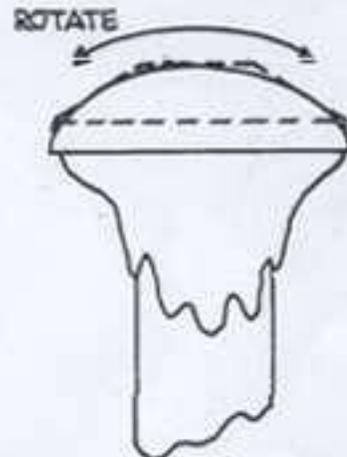

Fig. 7
6. Fine grinding (220 grit) - grind curves from bevel to bevel (Fig. 7), making each an arc of a circle so that light will be reflected evenly at every point. Use a sweeping motion, taking off the shoulder at the edge of the flat portion of the top. Sweep lengthwise on one side, turn the stone 90° and sweep across the end, turn 90° and sweep lengthwise on the second side, then turn 90° and sweep across the other end. Stop often and inspect, holding the stone up to note the development of the curves. Be careful to keep the contact of stone and wheel in sight. The dot is the